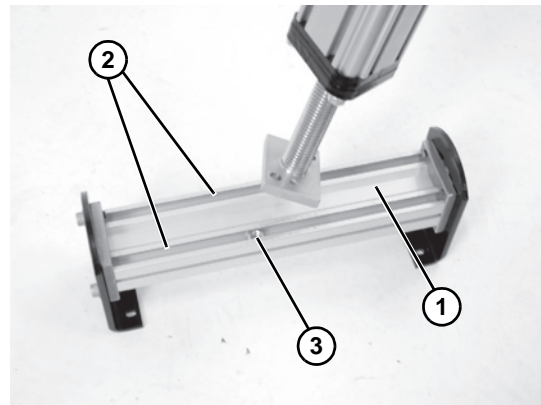
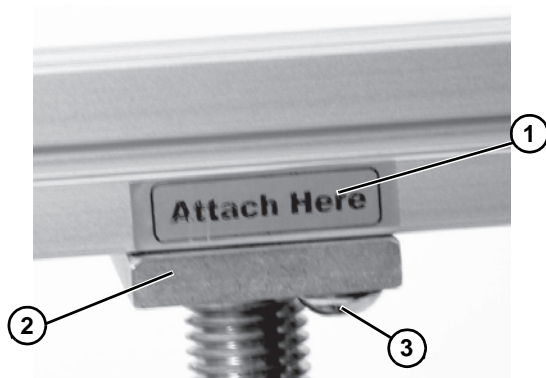

Figure 14
Figure 16
8. Position the conveyor mounting bracket and crossmember tube assembly (**Figure 14, item 1**) so there is access to the underside t-slots (**Figure 14, item 2**) and hex nuts (**Figure 14, item 3**).
11. To center the conveyor mounting bracket (**Figure 14, item 3**), position the “Attach Here” sticker (**Figure 16, item 1**) with the end plate (**Figure 16, item 2**) of the stand top screw assembly.
Failure to secure screws (Figure 16, item 3) may cause conveyor sections to drop down, causing severe injury.
TIGHTEN ALL SCREWS (Figure 16, item 3) AFTER ADJUSTMENT.
12. Tighten the button screws (**Figure 16, item 3**) to 100 in-lb (11 N-m).